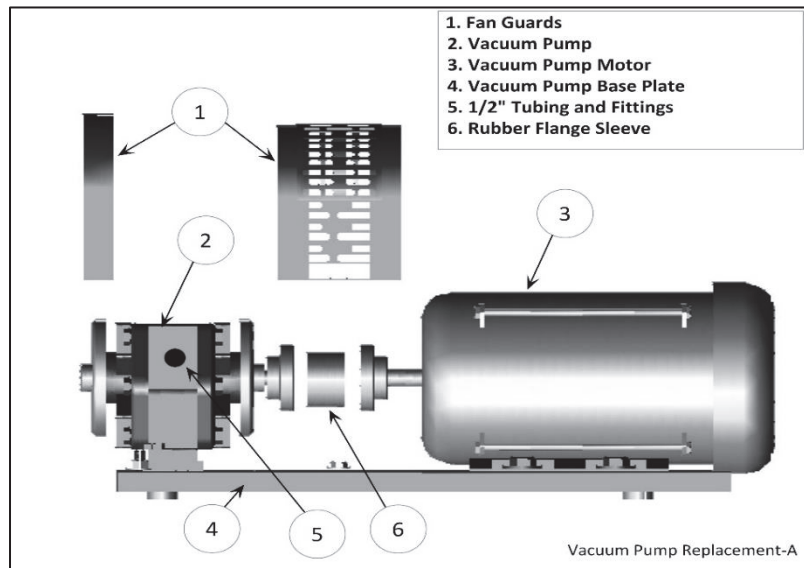

Figure 9-13: Vacuum Pump Assembly and Components
1. For the Vacuum Pump Assembly and Components, **See Figure 9-13.**
**See Figure 9-13.**